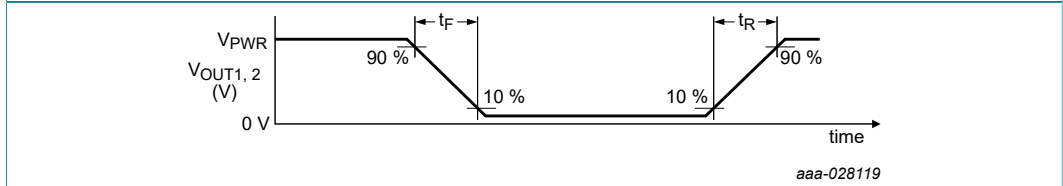

Figure 7. Output switching time
- [8] Rise time is from the 10 % to the 90 % level and fall time is from the 90 % to the 10 % level of the output signal with  $V_{PWR} = 14\text{ V}$ ,  $R_{LOAD} = 3.0\ \Omega$ . See Figure 7.